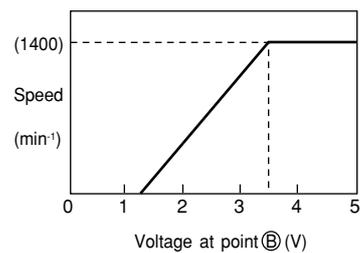

Fig. 7-3
- The pulse is converted into the analog voltage by the R751 and C751 and applied to the fan motor as the speed command voltage. Fig. 7-3 shows the relation between the voltage at the point (B) and the speed. (Some differences will occur due to the condition of the unit.)
- The fan motor outputs the feedback pulse of the speed, which is input into the pin (14) on the micro computer. This pulse is equivalent to a frequency of $12/60$ speed. (Example: $1000 \text{ min}^{-1} \times 12/60 = 200 \text{ Hz}$) The micro computer monitors the frequency and adjusts the output pulse range of the pin (24) so as to keep the command speed.